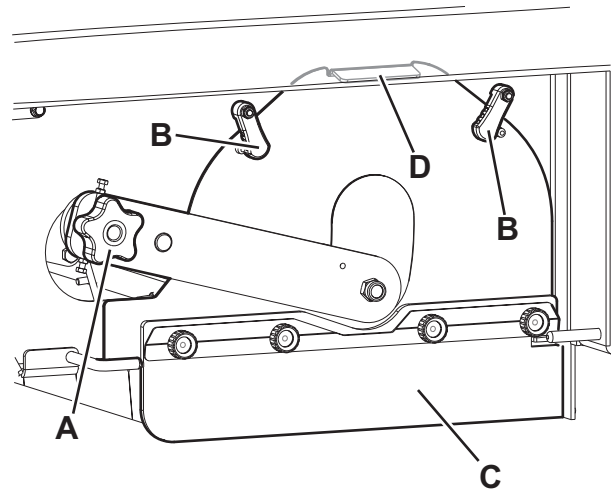
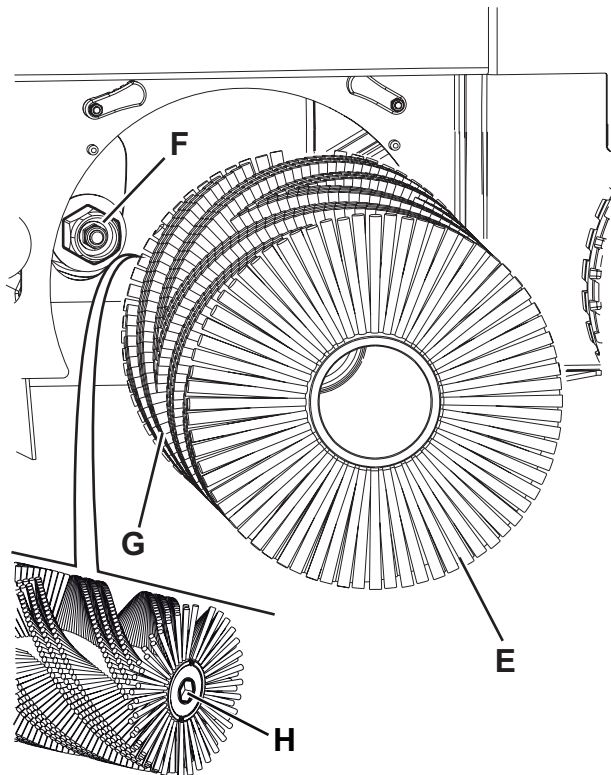

Figure 8
Figure 9
2. Turn the ignition key (61) to "0" and remove it.
3. Remove the left door (13) by turning the fasteners.
4. Unscrew and remove the knob (A, Fig. 8).
5. Turn the levers (B).
6. Remove the broom compartment latch (C) by grabbing it from its fold (D).
7. Remove the main broom (E, Fig. 9).
8. Check that the drive hub (F) is free from dirt or foreign materials (cords, rags, etc.) accidentally rolled up.
9. The new main broom must be installed with the bristles rows bent as shown in the figure (G).
10. Install the new broom and ensure that the hexagonal mesh (H) fits into the relevant drive hub (F).
11. Install the broom compartment latch (C, Fig. 8) by turning the levers (B) and screwing down the knob (A).
12. Close the left door (13) by turning the fasteners.